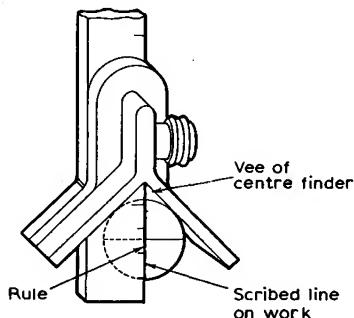

Fig. 4.191
Methods of centring. Three methods are commonly used: (1) Centre finder method, Fig. 4.191. The vee of the centre finder is held against the end face and a line is scribed on the work. The work is then rotated about 90° and a second line is scribed. The intersection of these lines is the centre of the work.